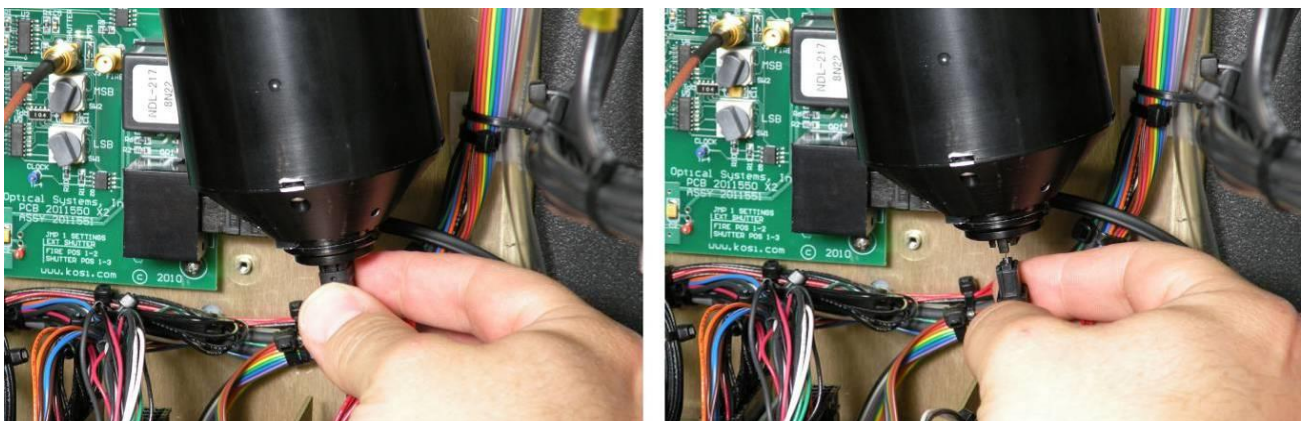

Figure 147. Remove fiber optic connection
4. Remove the fiber optic connection at the bottom of the detection module. Pull straight down (Figure 147).